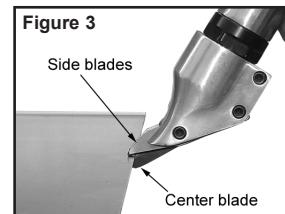

Figure 3
7. Place the side blades on the edge of the top side of the workpiece (see Figure 3). **NOTE: Always lubricate the material that is being cut. Use standard machine oil on steel and mineral spirits on aluminum.**